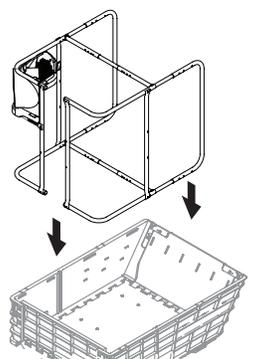

Figure 11
- Place assembled frame into cart with the bag vent (731-12351B) in the right upper corner facing the mower. See Figure 11.